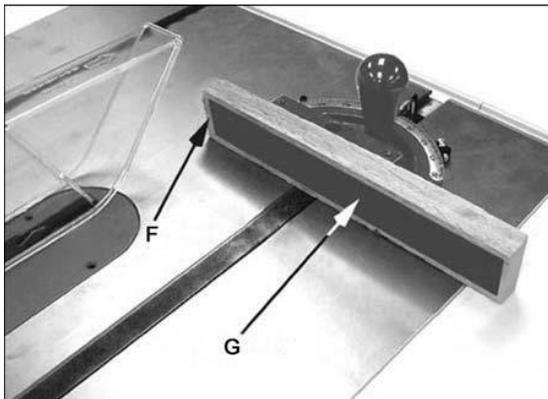

Figure 38 (有附嗎?.....檢查內文可能要拿掉, 後續圖號也必須做修改)
To augment the effectiveness of the miter gauge in crosscutting, some users mount an auxiliary wooden extension face (F, Figure 38) with a glued-on strip of sandpaper (G) to the miter gauge.